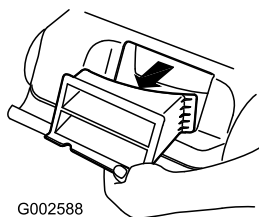

Figure 22
2. Remove the rear discharge plug (Figure 22).